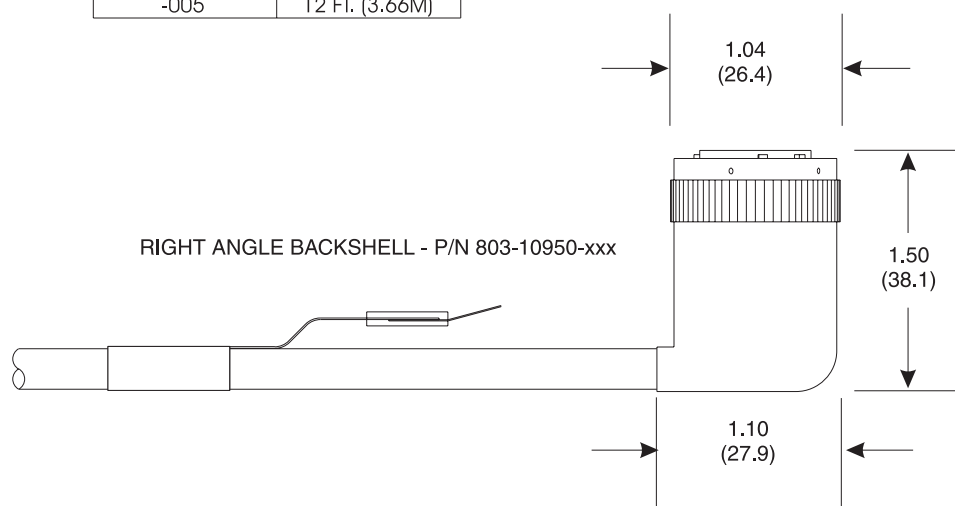

Figure 1-5. Antenna Cables
- Antenna Cable P/N 803-10950-00x (Cable Assembly w/Right Angle Backshell. See figure 1-5.)